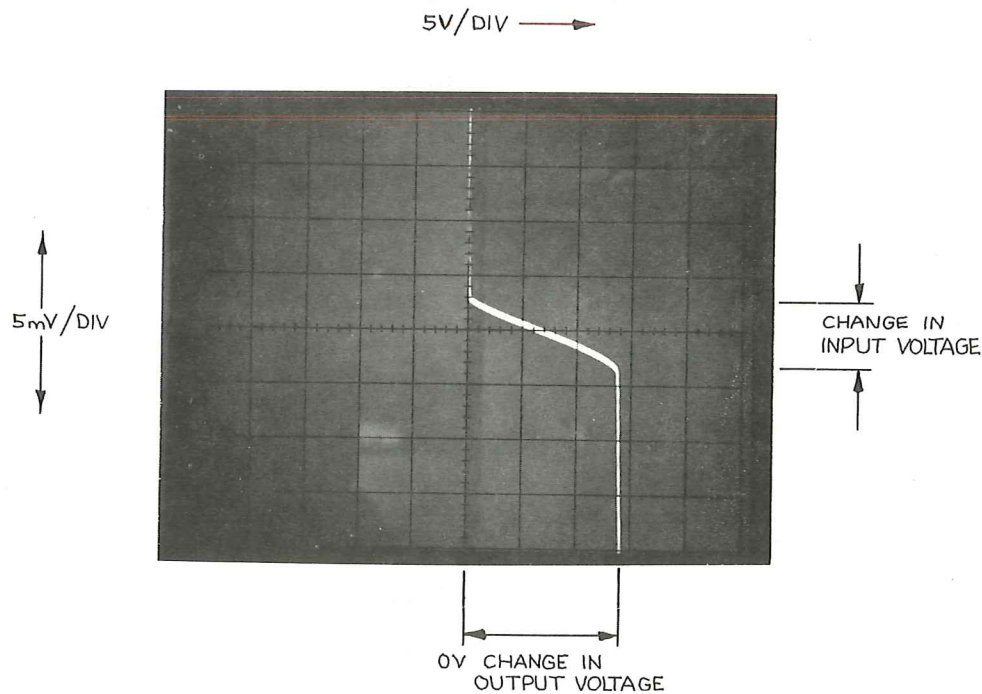

Figure 21. Typical display of gain characteristics.
- b. Turn V- until gain curve is displayed; see Fig. 21